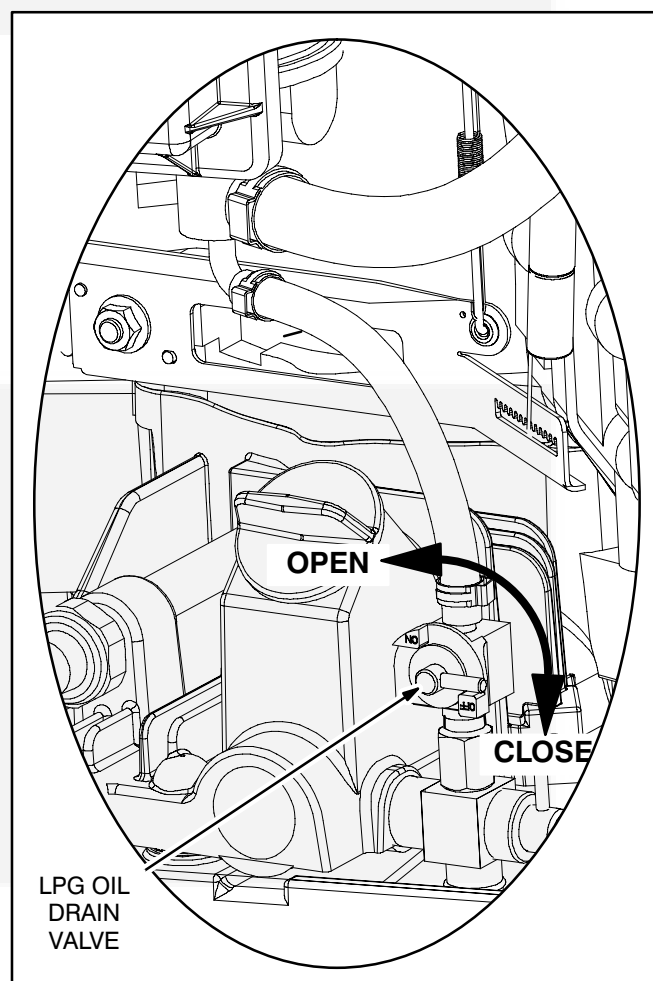

FIGURE 10. DRAINING HIGH PRESSURE LPG OF OIL
5. **High Pressure LPG Models** – Open the LPG oil drain valve (Figure 10) to drain the oil-like substance visible in the clear plastic drain hose. Oil-like sludge can migrate from the LPG supply system during operation, and if allowed to accumulate, can cause hard starting and rough running. The sludge drains out through the engine oil drain hose (Page 18). Make sure to re-close the valve to keep out dust and to keep the engine running smoothly.
8. **High Pressure LPG Models** – Make sure the LPG oil drain valve (Figure 10, Page 13) is closed.